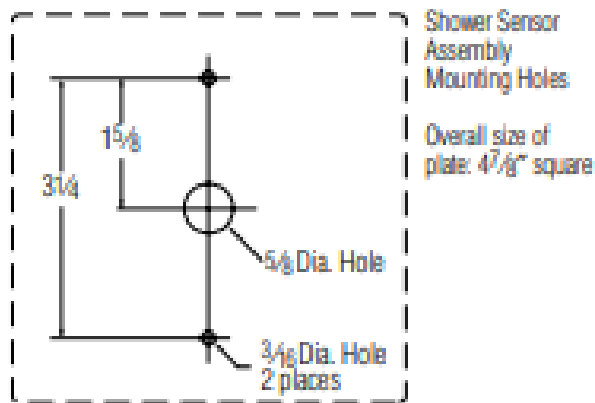

Fig. 1.40: Sensor assembling mounting holes
**Step 1: Determine Shower Component Layout** (Refer Fig. 1.40)
- Keep solenoid within 2 feet of the modular junction box (or up to 100 feet with extra cables). (Refer Fig. 1.40)